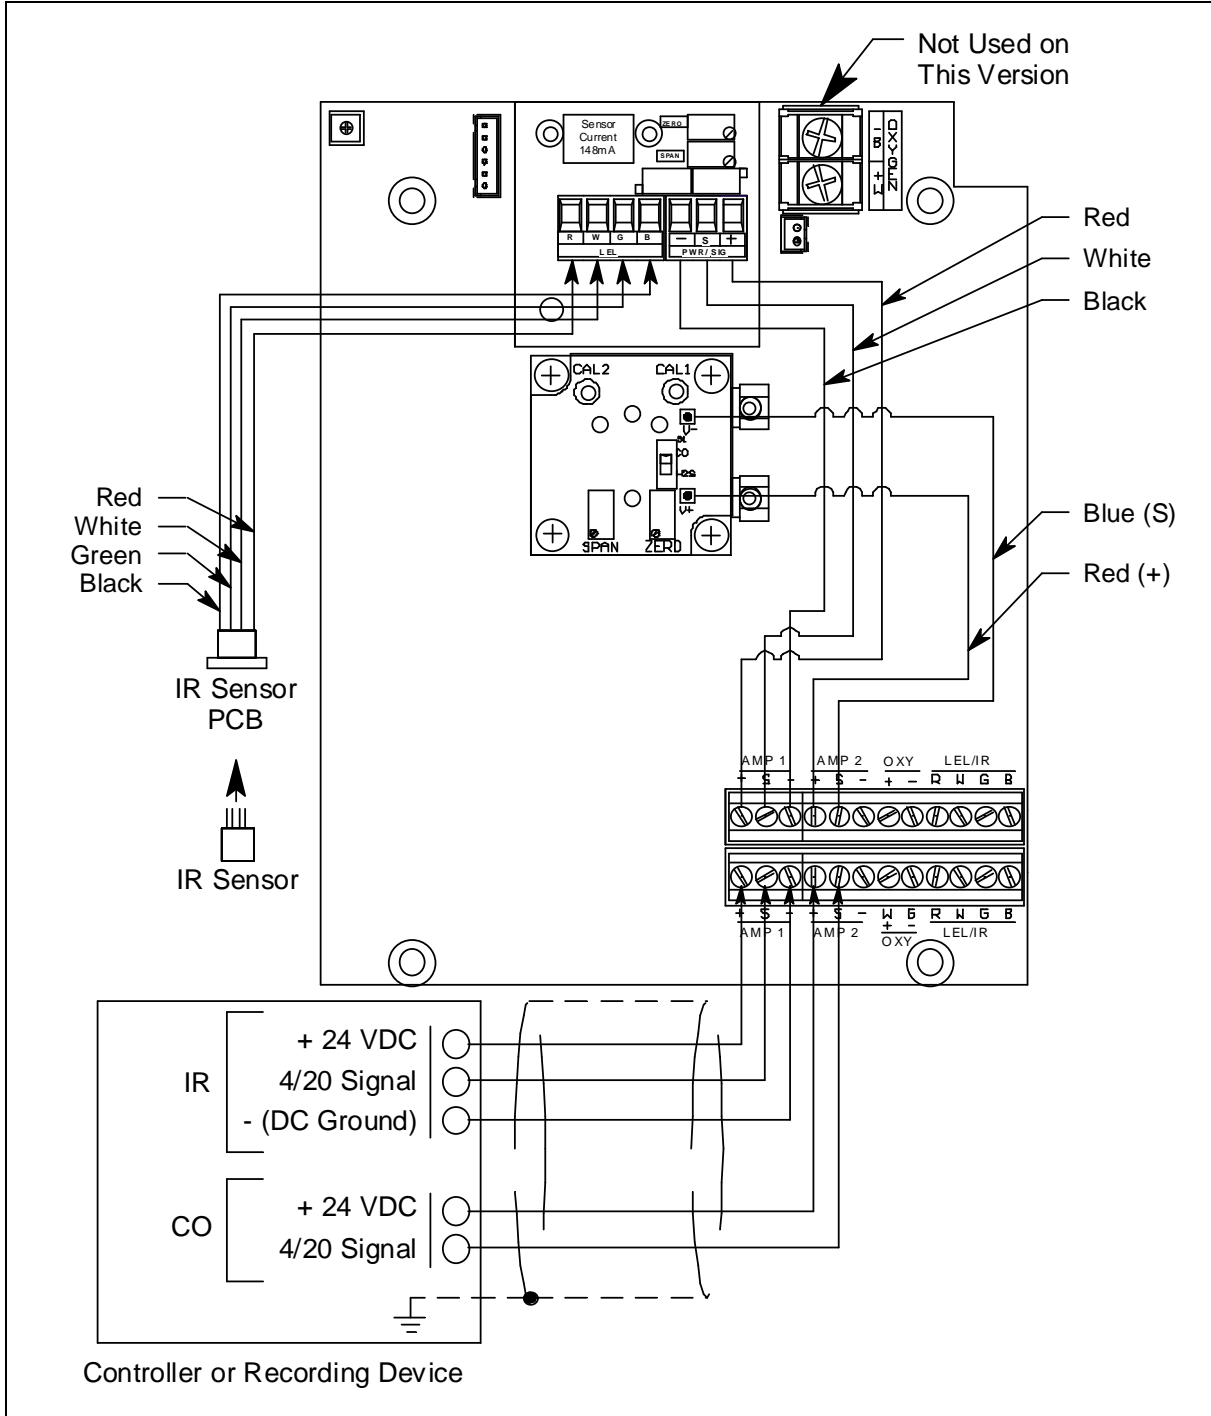

Figure 6: Wiring the Sample-Draw Detector to a Controller
5. Connect the cable to the sample-draw detector's interconnect terminal strip as shown in Figure 6.
8. Connect the wires to the applicable detector/transmitter terminal strip at the controller as shown in Figure 6. Refer to the controller operator's manual and the controller detector head specification sheet for the 35-3001A-08-XX for detector/terminal strip connections specific to the controller.